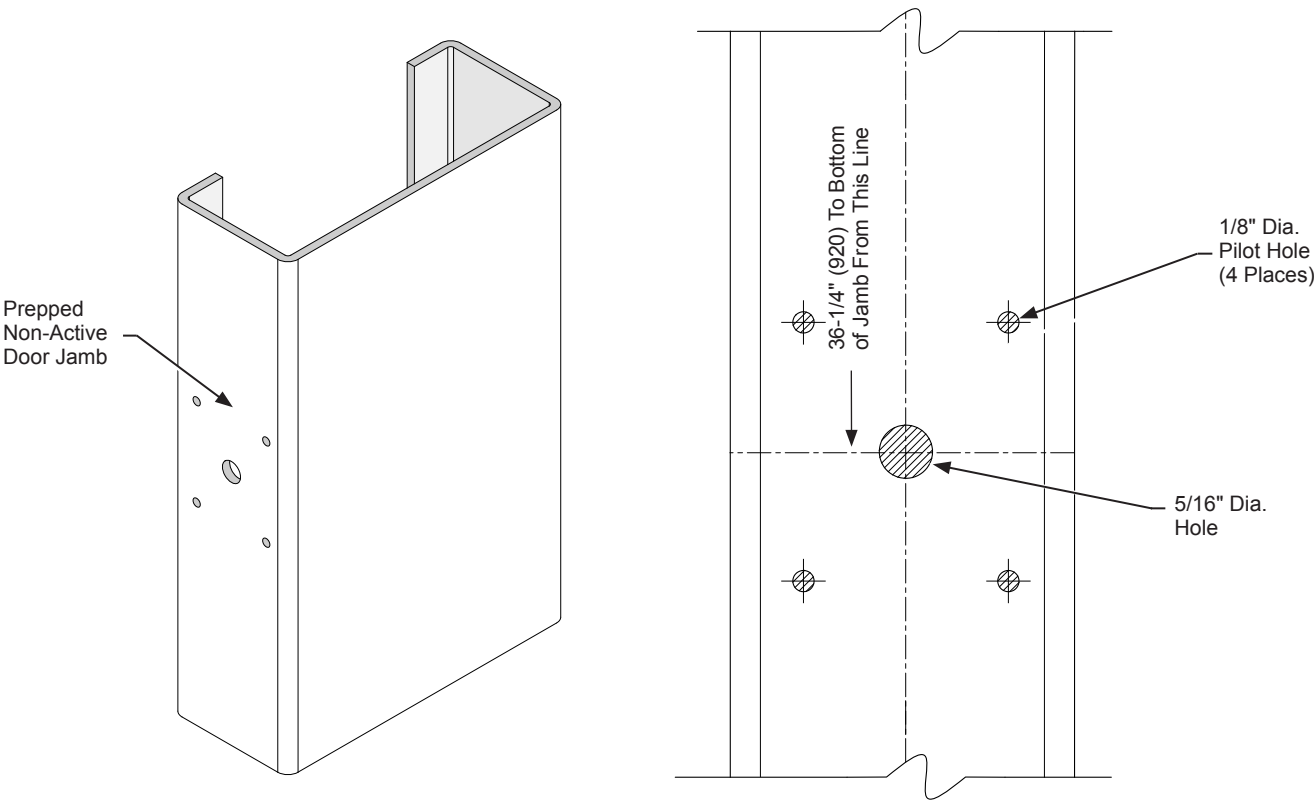
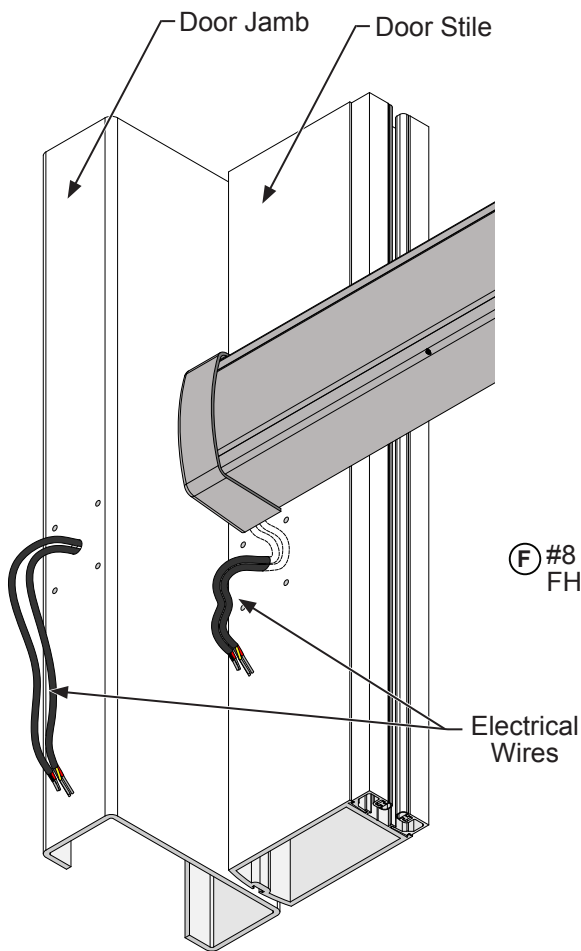

FIG. 17
FIG. 18
When the exit device works properly, connect the wires to the power supply as shown in Figure 17, once the wires are properly attached to the power supply you need to feed the proper wires through the 5/16" Dia. hole prepped on the non - active door jamb as shown on Figure 17 on Page 17.
Drill a 5/16" Dia. hole and Drill (4) 1/8" Dia. pilot holes. (Fig. 17)
After preparing non-active door jamb. (Fig.17) Route the wires through the the hole on the door jamb. (Fig. 18)